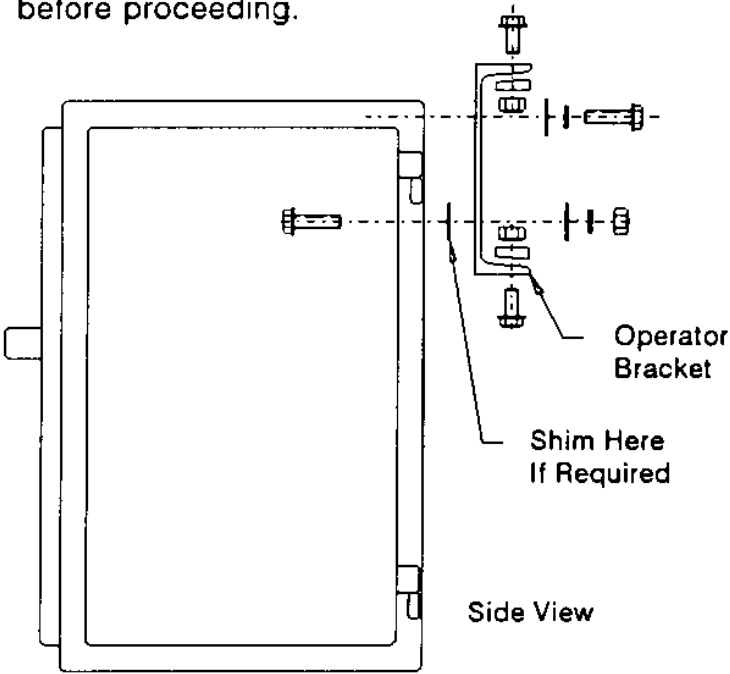

Figure 34 -- Motor Operator Mounting 72-265-035-434
- 3. The motor operator is bolted to the column leg as shown in Figure 34 by using kit #4. Proper lifting method is shown in the Handling section. Further details of the motor operator are covered in the Operation Section of this manual. If unfamiliar with the motor operator, this section should be reviewed before proceeding.